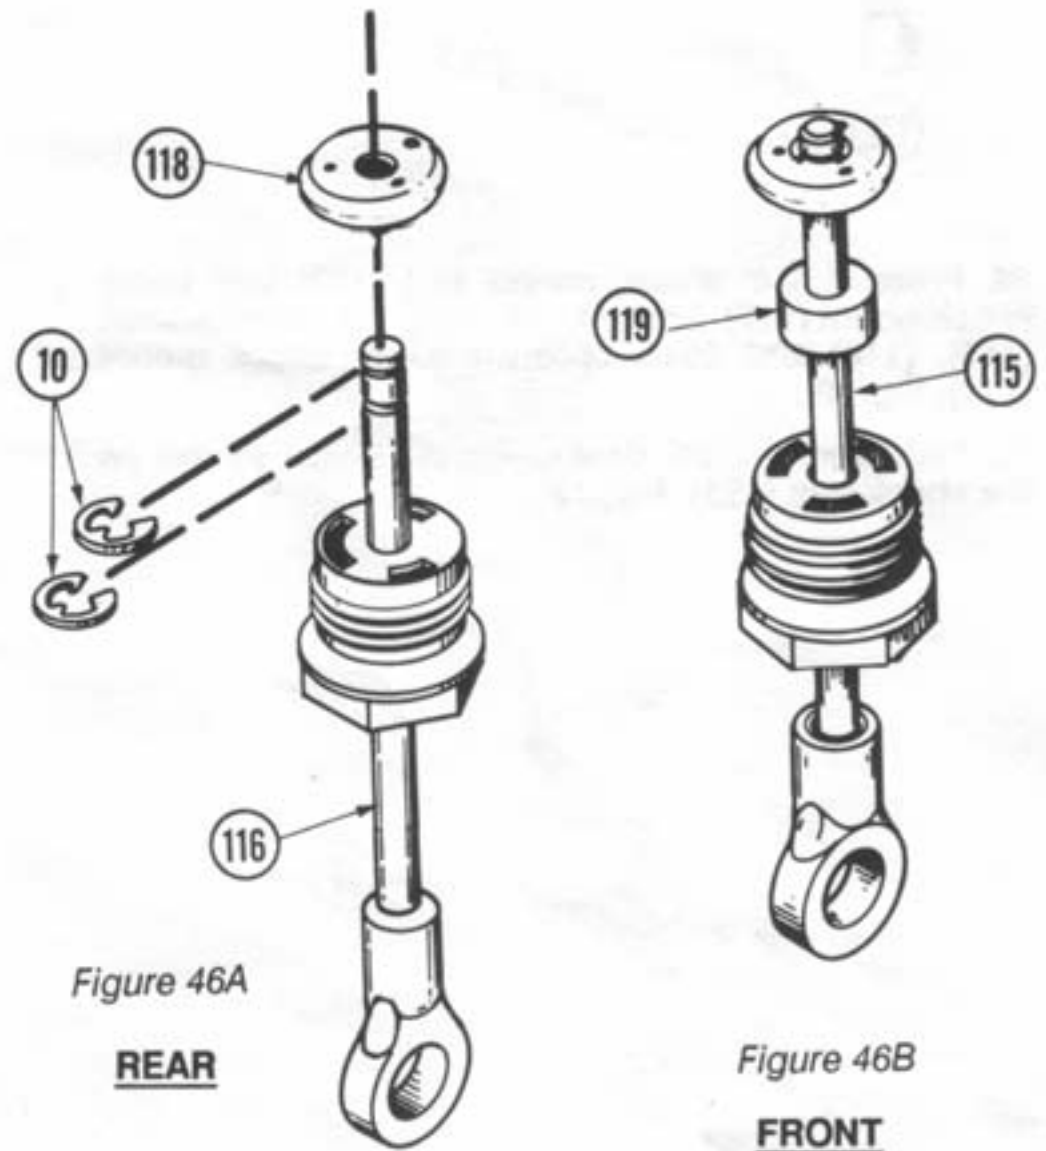

Figure 46A
5. Snap 1/8" E-clip (10) into groove closest to the threads on rear shock shaft (116). Fig 46A
6. Slide piston (118) onto rear shaft (116) until it rests against E-clip (10). Secure piston (118) to shaft with a second e-clip (10). Fig. 46A